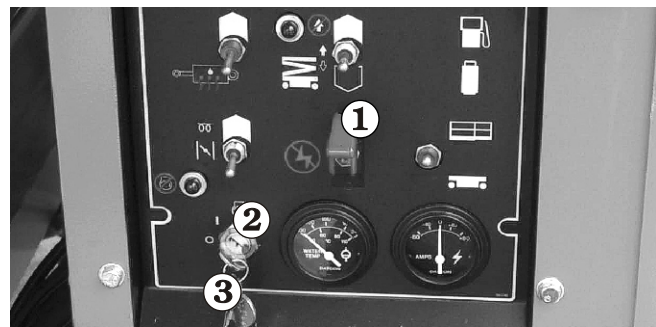

Figure 10.5
1. Push the **Emergency Stop** switch **1** down (OFF) and set the **Main Power** switch **2** to OFF then remove the key **3** (see Figure 10.5).